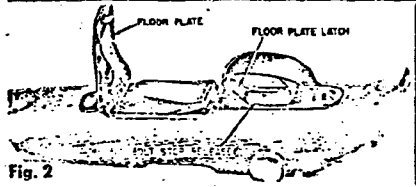

Fig. 2
Push safety ON SAFE and turn rifle bottom upwards. Press floor plate latch to release floor plate (Fig. 2). Lift floor plate with attached follower and spring and load cartridges into magazine opening. Close floor plate and snap floor plate into position.
**BARREL CARE** — Use lightly oiled patch, cleaning from breech to muzzle. Remove bolt to make cleaning easier. Press upwards on bolt stop release (Fig. 2) and pull bolt from receiver. Scrub bare with cleaning solvent if necessary.